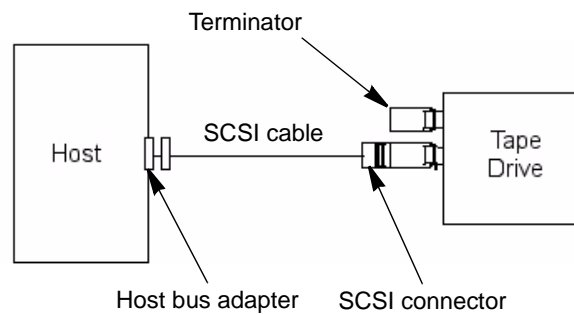

Figure 2-2 Tape drive is last or only device on the SCSI bus
- ▶ If the tape drive is the last or only device on the SCSI bus, connect a SCSI cable between the tape drive and the host, as shown in Figure 2-2. Install a terminator on the unused SCSI connector